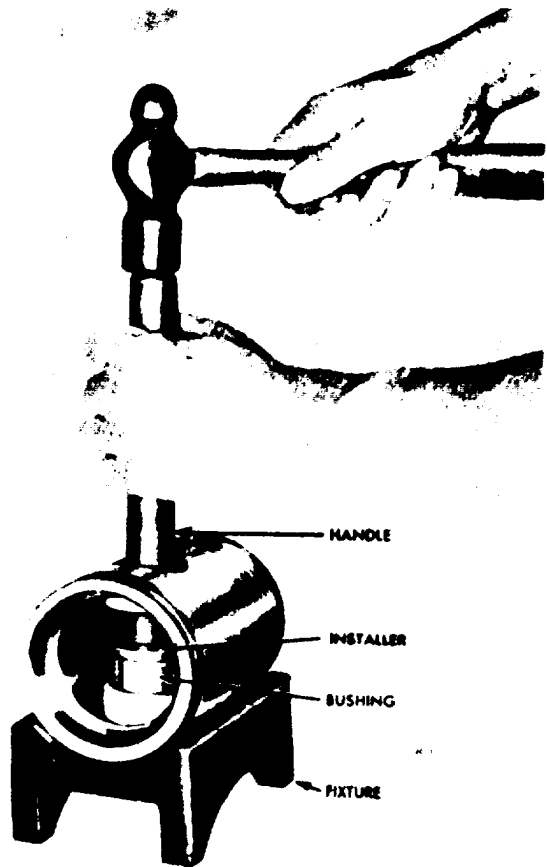

Fig. 5 Removing or Installing Piston Pin Bushings
2. Drive each bushing from the piston with the bushing remover J 4972-4 and handle J 1513-2 (Fig. 5).